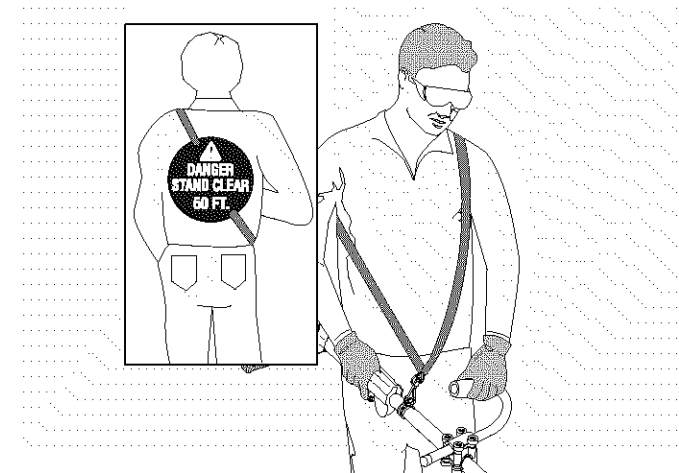

Fig. 12
1. Place the shoulder harness on the left shoulder, the "Danger" sign on the back, and hook on the right thigh (Fig. 12).
2. The hook should be approximately 15 inches (38 cm) above your knee, or six (6) inches (15 cm) below your waist (Fig. 12).
3. Attach the hook to the shoulder harness clamp on the unit (Fig. 14) and lift the unit to the operating position to verify fit before operating unit (Fig. 12).